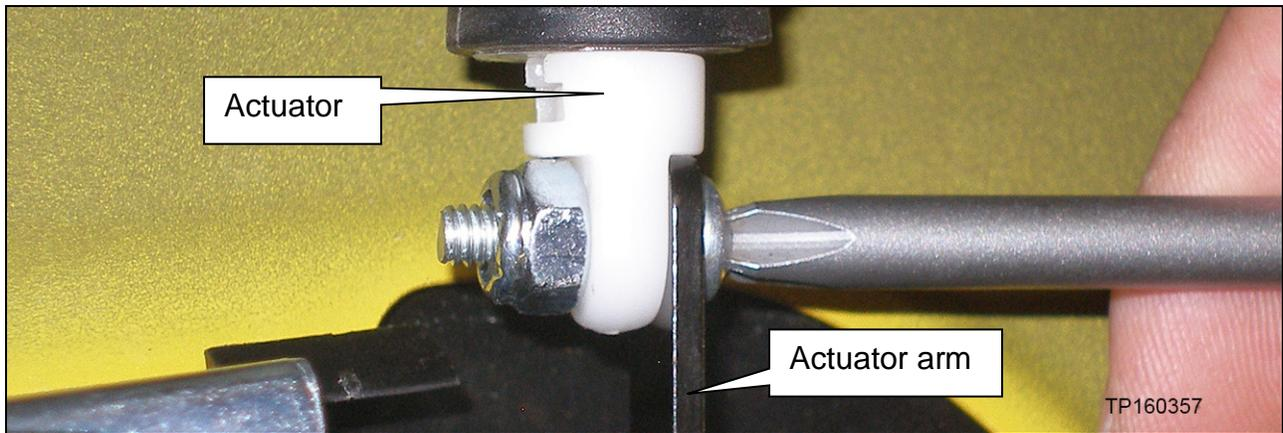

Figure 9
c. Remove the actuator arm from the actuator and discard (Figure 9).